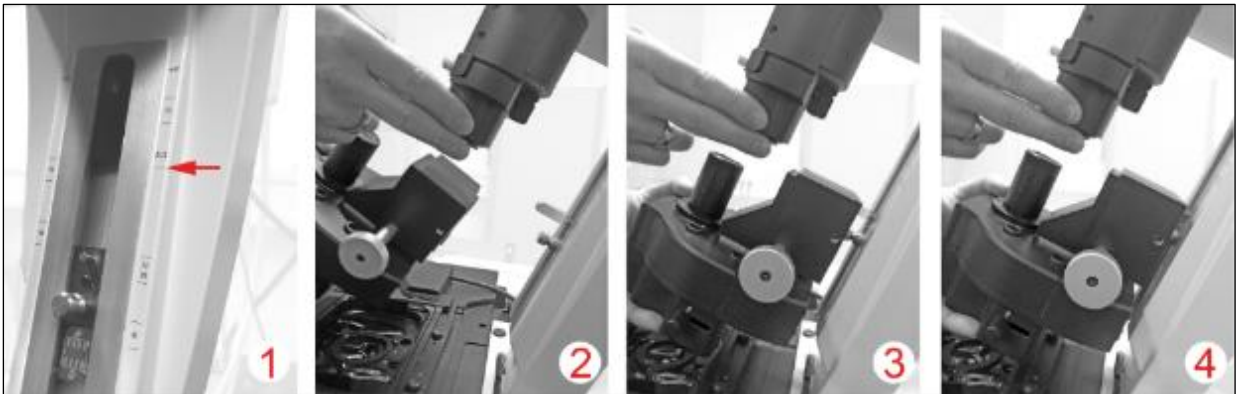

Figure 77: Attaching the objective holder
11. When attaching the objective holder, note the DLS mark on the transmitted light arm (see Figure 77, position 1).
12. Push the laser protection tube upward so that you can attach the objective holder to the transmitted light arm (see Figure 77, position 2-4).